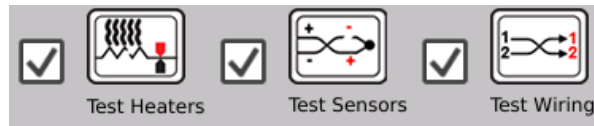

Figure 9-5 Mold Test Selection Checkboxes
10. If not already selected, touch the checkbox next to the test (Figure 9-5) that you want to run on the selected zones. Refer to Section 9.2.3 for information about the tests.